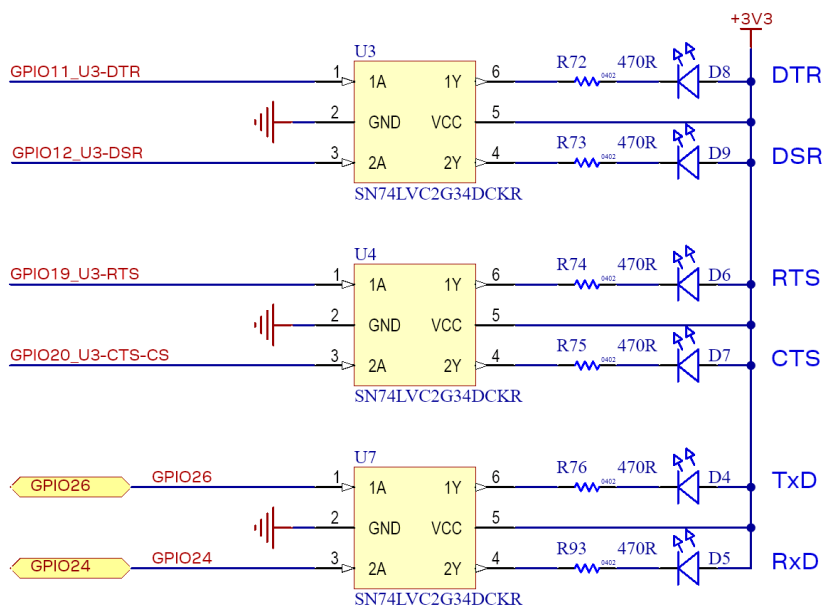

Figure 15: Schematic – UART3 status LED
- UART3 status (**D4-D9**): Indicate UART3 signal status under GPIO control, as shown in Figure 15.
Figure 15 shows the UART3 status LEDs (D4–D9) that indicate UART3 signal status under GPIO control.